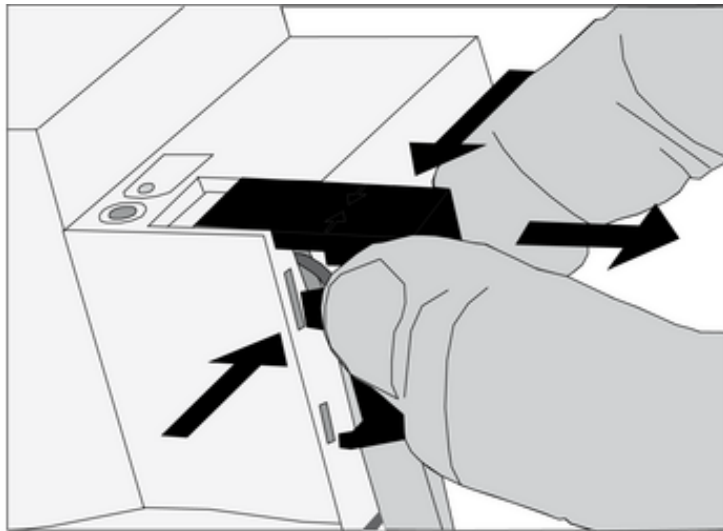

Figure 10: Removing the cover
- Press the cover to the side and pull it off (Figure 10).